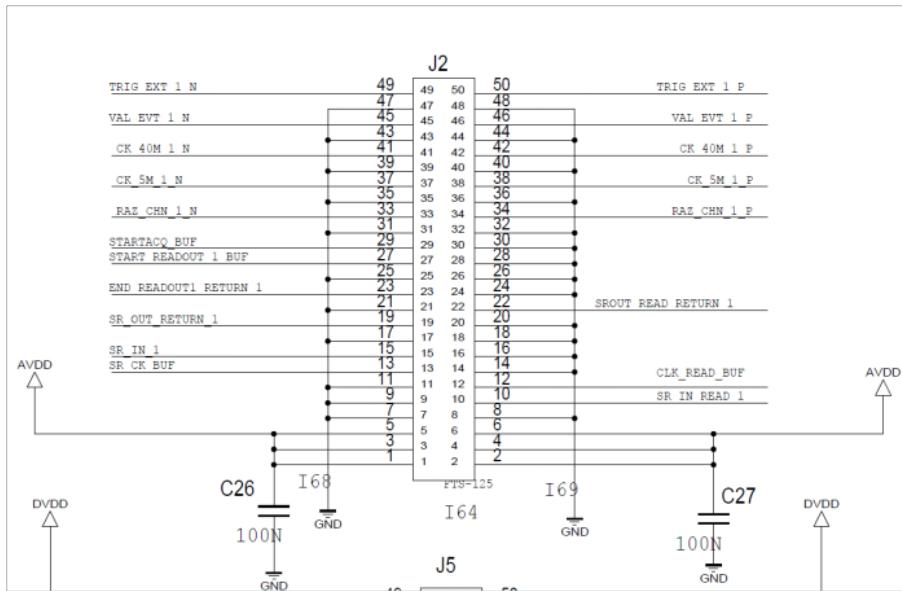

Figure 1.5: J2 connector pin-out
2. Then take a 50 pins flat cable (that you are then going to connect to the J2 connector). Cut in the middle the wires number 13, 49 and 50 (SR_CK_BUF, TRIG_EXT_N and TRIG_EXT_P respectively). Refer to Figure 1.5 for the flat cable pin-out. Strip the “ASU end” of these wires. By ASU end I mean the end that is not to be connected to the interface but to the ASU. If needed do the same for the other flat cables coming out the connectors J6, J8 and J10.